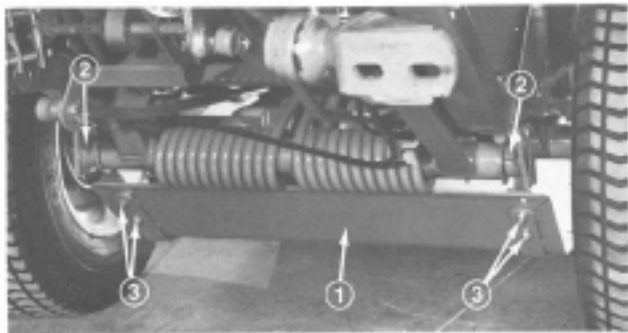

Figure 6
- Secure Belly Shield to Belly Shield hooks with (2) 5/16 locknuts on each side (Fig. 6).